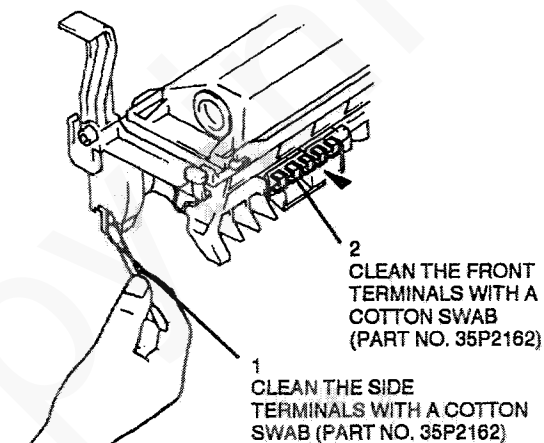

Figure 3. Developer unit contacts cleaning
5. (Figure 3) Clean the contacts on the developer unit.